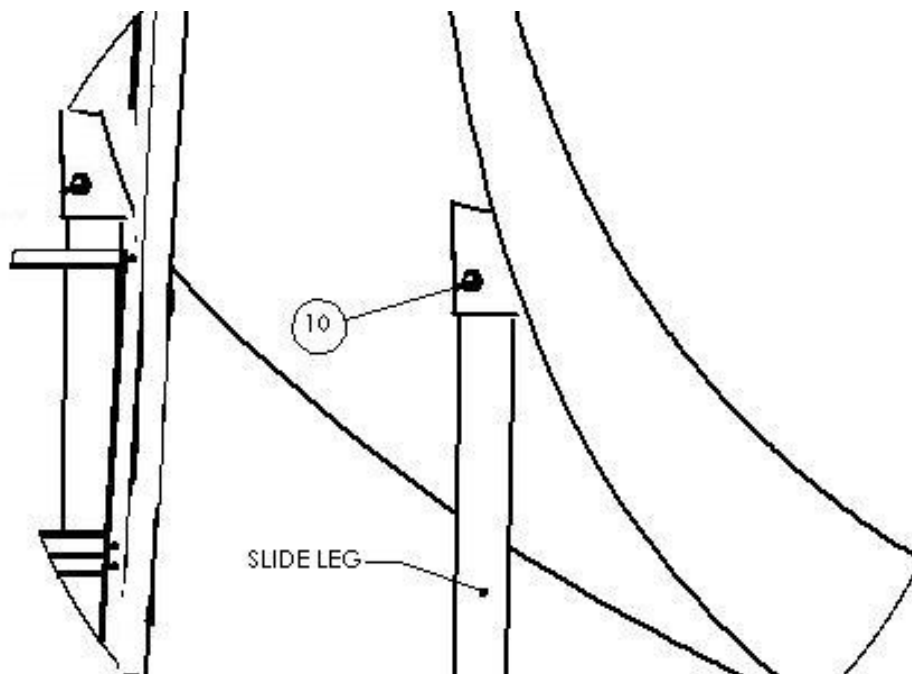

Figure 22
- 22)** If necessary the legs can be adjusted up and down within the leg sockets to help adjust for level. Once the slide is properly leveled the legs shall be permanently attached by drilling a 1/4" hole into each leg using the hole on the leg socket as a guide and fastening with a (#10) 5/16" Hex Head Washer Tek Head Screw. See Figure 22.